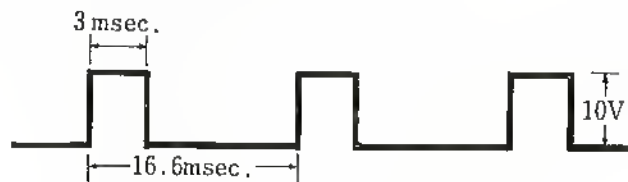

Fig. 39 Wave-form at TP201.
B. The adjustment of the Rec. Phase can be made by connecting an oscilloscope to TP201 (collector of Q205) and by setting R220 (VR 50K Ω) to obtain the wave-form as shown in Fig. 39.